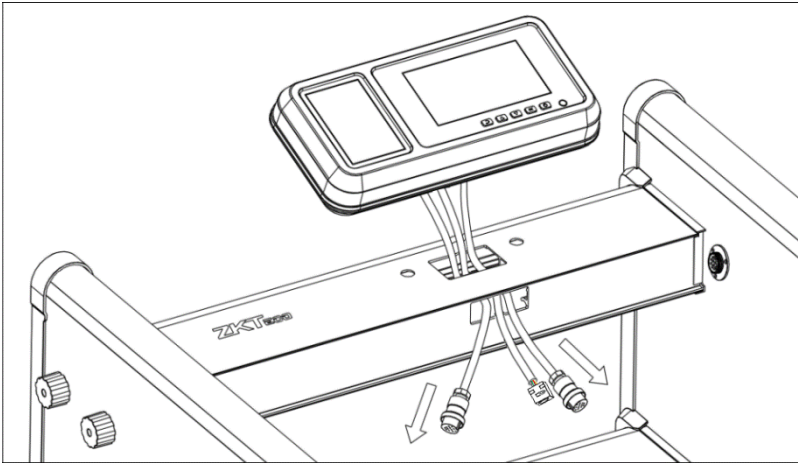

Figure 3-7
Step 6: Pass the host signal line and network line through the opening of the front beam, as shown in the figure 3-7 below.